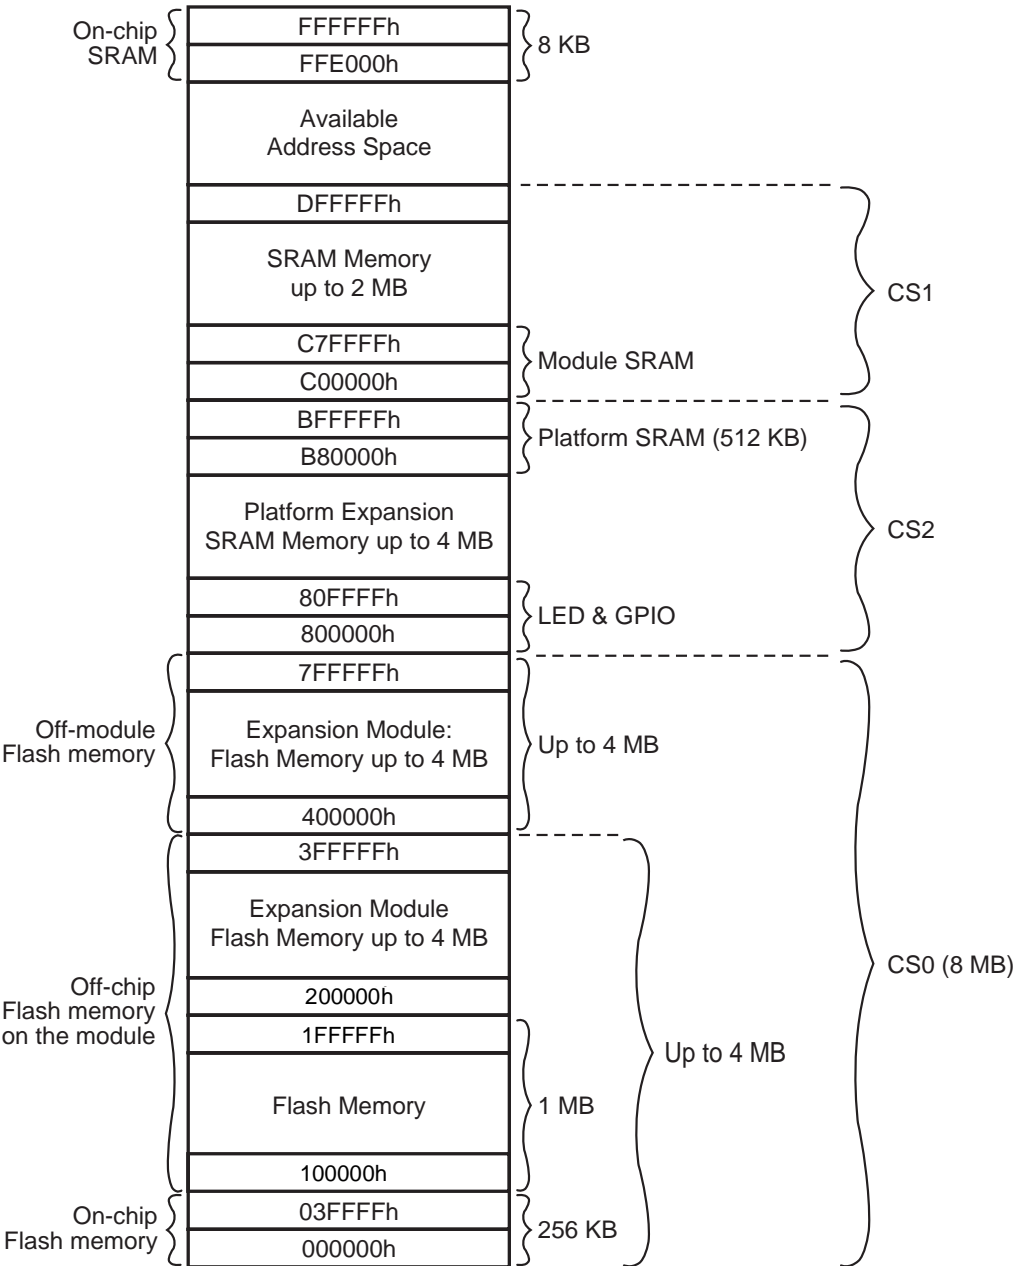

Figure 10. Memory Map of the eZ80Acclaim!® Development Kit and eZ80F91 Module
A memory map of the eZ80Acclaim!® Development Kit and the eZ80F91 Module is displayed in Figure 10. Flash memory and SRAM on the eZ80F91 Module are addressed when  $\overline{CS0}$  and  $\overline{CS1}$  are active Low. SRAM on the eZ80Acclaim! Development Kit is addressed when  $\overline{CS2}$  is active Low.
**Chip Selects and Wait States**—As seen in the memory map in Figure 10, Flash memory is enabled by CS0, on-module SRAM is enabled by CS1, and the remainder of the resources are enabled by CS2. The number of wait states (N) for each Chip Select are indicated in Table 14.